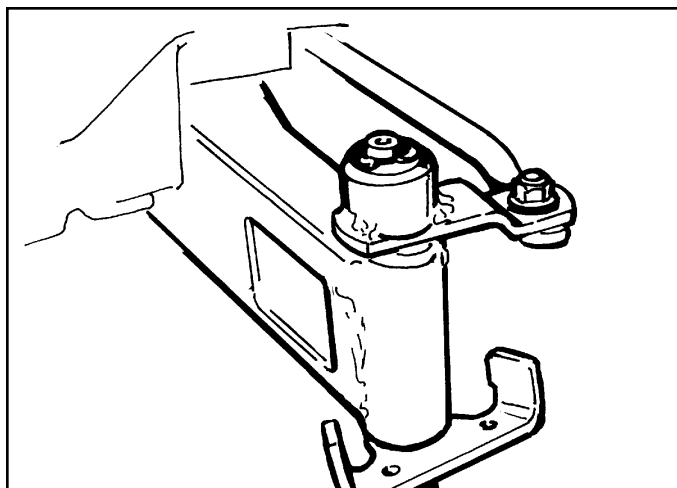

Figure A-11. Right Front Spindle Assembly
1. Remove right front wheel using same procedure as used for left front wheel. (Figure A-11)
2. Use a center punch to mark the relative assembled positions of the right hand steering arm, right hand spindle assembly, and the right side of the front axle assembly (Figure A-11 and A-12).